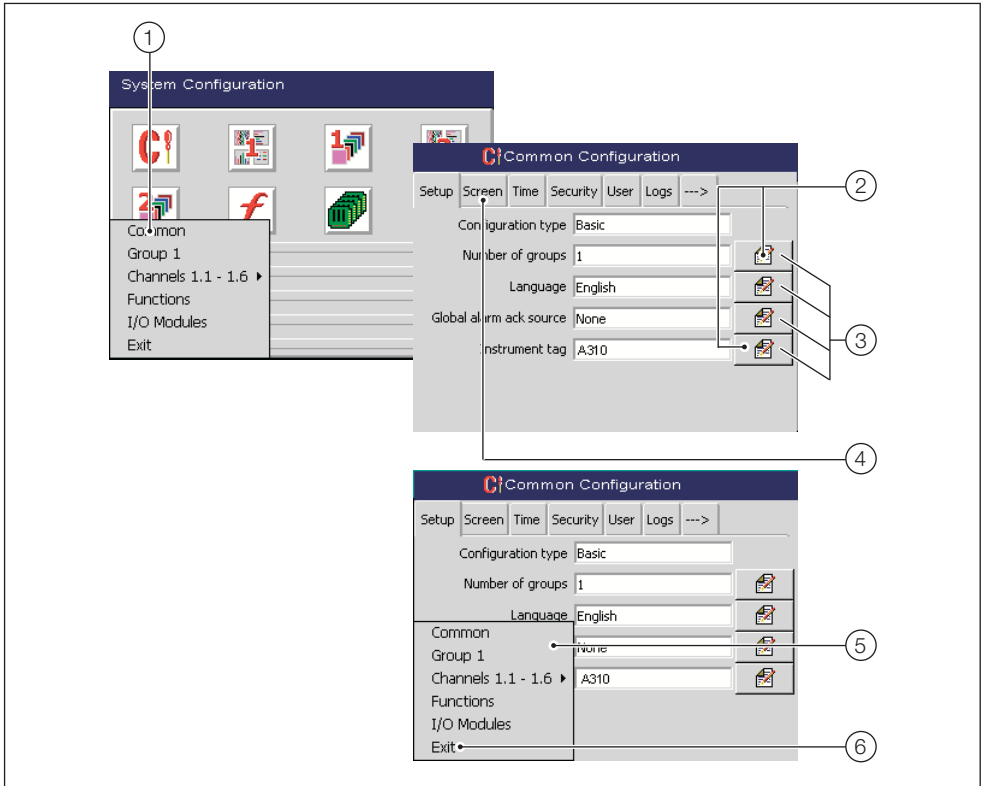

Fig. 6.4 Overview of Configuration Steps
6.4 Overview of Configuration – Fig. 6.4
Referring to Fig. 6.4, configure the instrument as follows: